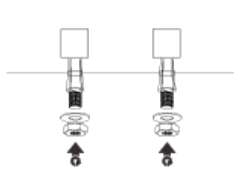

Figure 2
2. Secure the anchors into the holes with a hammer. (figure 2)